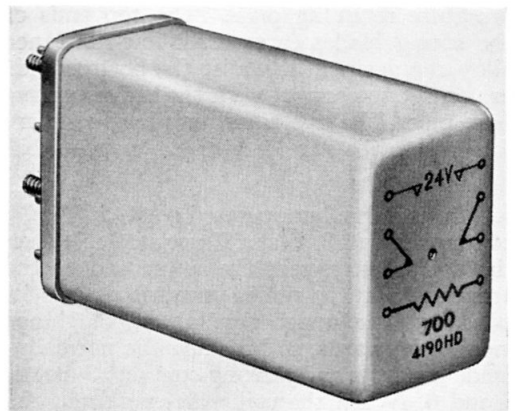
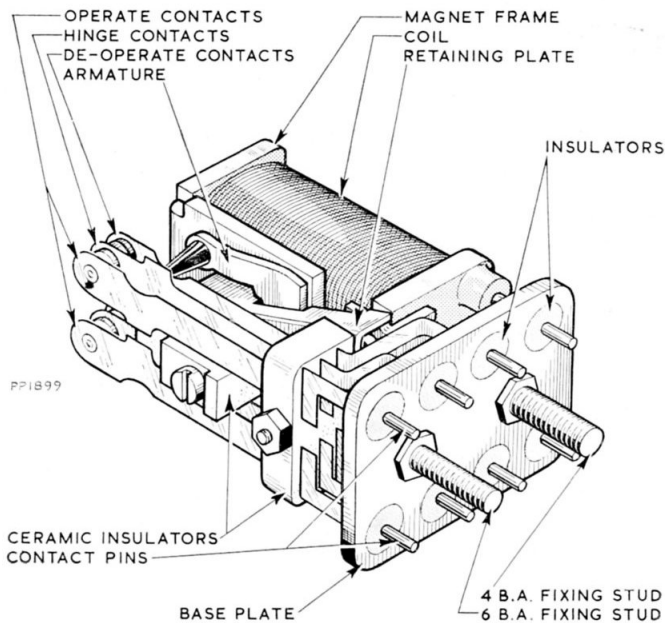

Fig. 1. Magnetic relay switch, Type 4190HD
Fig. 2. Internal construction of relay
2. A general view of the relay is given in fig. 1, and a view of the internal construction in fig. 2. It incorporates a base plate, a magnet frame with coil and armature, and a contact set. The base plate, which carries two fixing studs, is drilled to accommodate the eight glass insulators for the contact pins. Mounted on its upper side is a bracket, to which are attached the magnet frame, coil, armature and spring set.